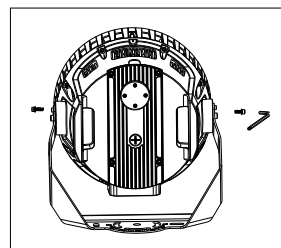

Figure 2
- After adjusting to the required angle, fix it in place with M6 screws (Figure 2).